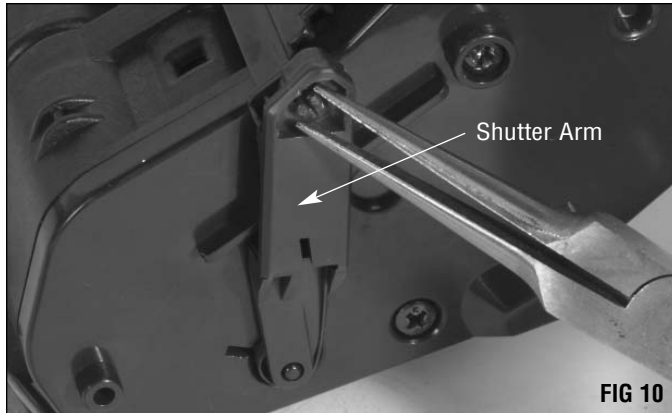

FIG 10
1. Use needlenose pliers to squeeze the clip at each end of the shutter to release the shutter from the shutter arms, and remove the shutter (FIG 10).